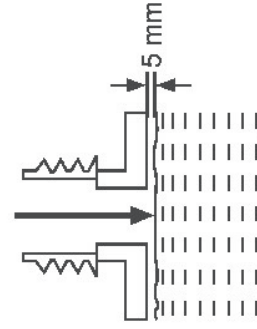

Fig. 6
4. Do not overfill. Add fuel until the fuel level remains a minimum 5 mm of space between top of the fuel and the inside edge of the tank to allow for expansion (Fig. 6).